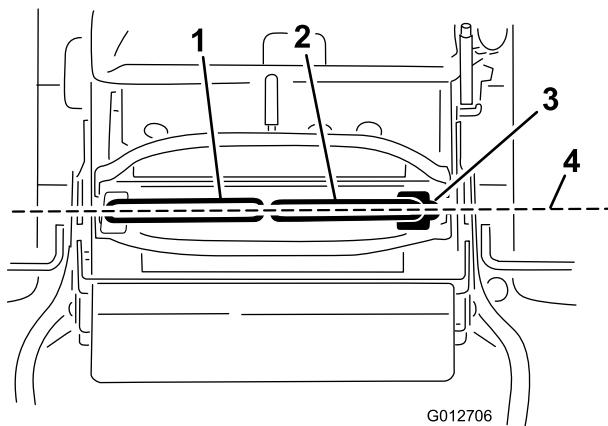

Figure 71
Important: Ensure the tracking of the mower is correct after adjusting the motion control levers. Adjusting the tracking and aligning the motion control levers front to back is the same procedure (Figure 71).
1. After the horizontal alignment is finished, check the front to back alignment by slightly pushing the control levers forward to take up any slack in the linkage for the control levers (Figure 71).